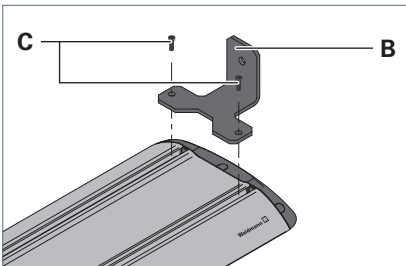

Fig. 12: Mounting the brackets for mounting type "Lateral".
- Mount the enclosed brackets **B** on the luminaire using the enclosed screws **C** and the slide nuts and tighten the screws, see Fig. 12.